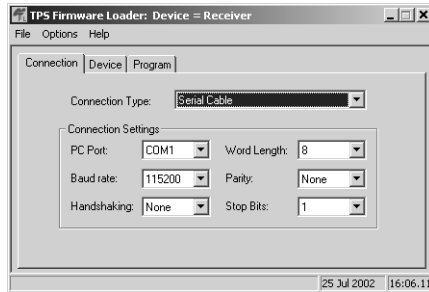

Figure 3-21. FLoader Main Screen
2. Connect the receiver and computer using an RS232 or USB cable and activate FLoader (Figure 3-21 on page 3-23).
3. On the *Connection* tab, select the COM port on your computer that connects with your receiver and select its speed (usually 115200) (Figure 3-21).